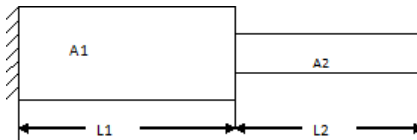

Figure 4
- b) For the stepped bar shown in the figure 4. Develop the global stiffness and mass matrices and also determine the natural frequencies and mode shapes. Assume $E = 200$ GPa and mass density = 7850 kg/m^3 , $L_1 = L_2 = 0.3$ m, $A_1 = 350 \text{ mm}^2$, $A_2 = 600 \text{ mm}^2$. (15)